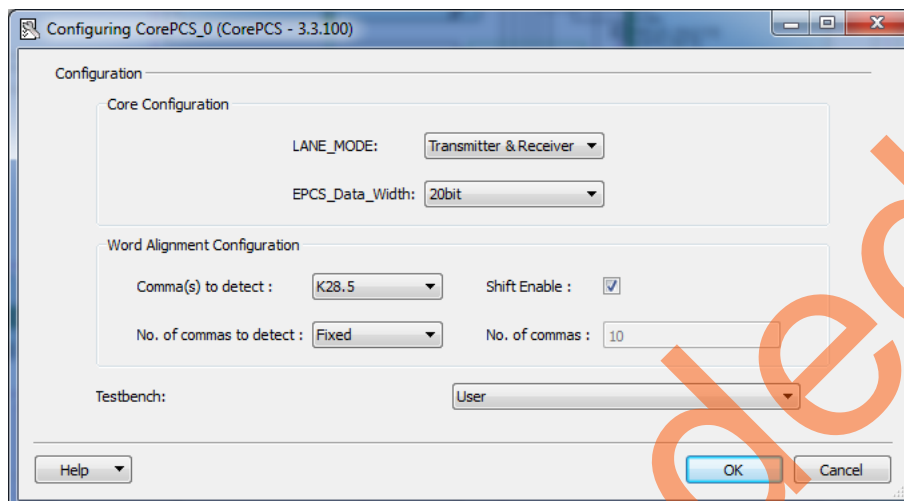

Figure 32 • CorePCS Configurator Settings
4. In the **Peripherals** tab, select the **CorePCS** module and drag it onto the `EPCS_Demo_top` SmartDesign canvas. Double-click the **CorePCS_0** module and set the parameters, as shown in Figure 32.